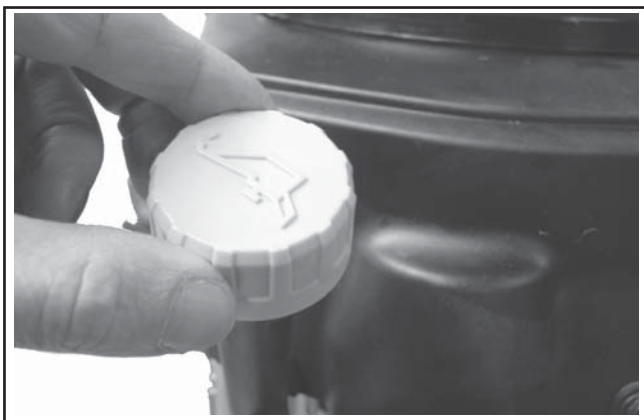

Figure 6-3. Oil Fill Cap/Dipstick.
2. Clean the area around and beneath the oil fill cap/dipstick before removing it. This will help keep dirt, debris, and other foreign matter out of the engine. See Figure 6-3.
1. To keep dirt, debris, etc., out of the engine, clean the area around the oil fill cap/dipstick before removing it. See Figure 6-3.
1. Drain the oil from the engine crankcase. Remove one of the oil drain plugs and the oil fill cap/dipstick. Allow ample time for complete drainage. See Figures 6-3, 6-5, and 6-6.